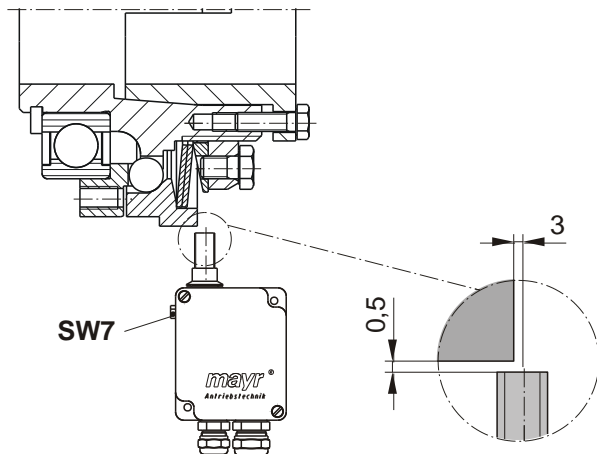
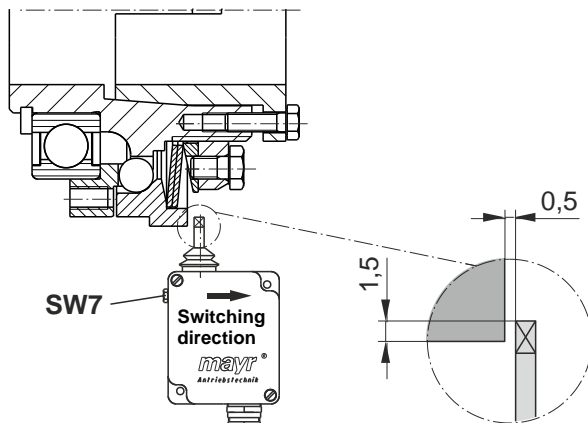

Fig. 14: contactless limit switch
Fig. 15: mechanical limit switch
The switching direction arrow on the housing lid of the mechanical limit switch faces in the direction of the adjusting nut (5) or in the thrust washer (3) stroke direction, Fig. 1. Adjust the switch distances for the contactless and mechanical limit switch acc. Fig. 14 or Fig. 15. The distance from the switching point to the thrust washer (3) can be finely adjusted using a hexagon head screw SW7 (Figs. 14 and 15).